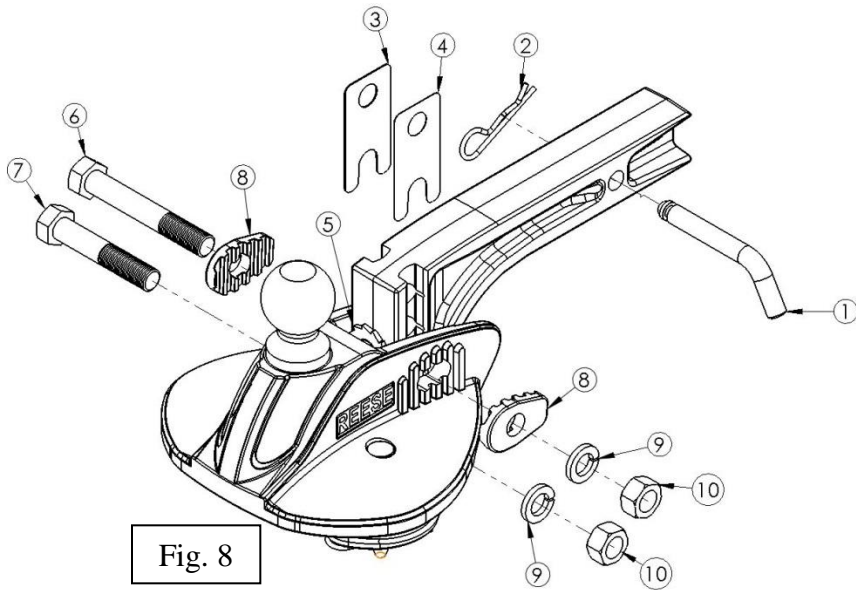

Fig. 8
15. Insert the short 3/4" bolt through bottom hole of the ball mount and a hole in the hitch bar that will position the top of the ball 1/2"-1" above the top of the coupler (See Fig. 8 & 8A).